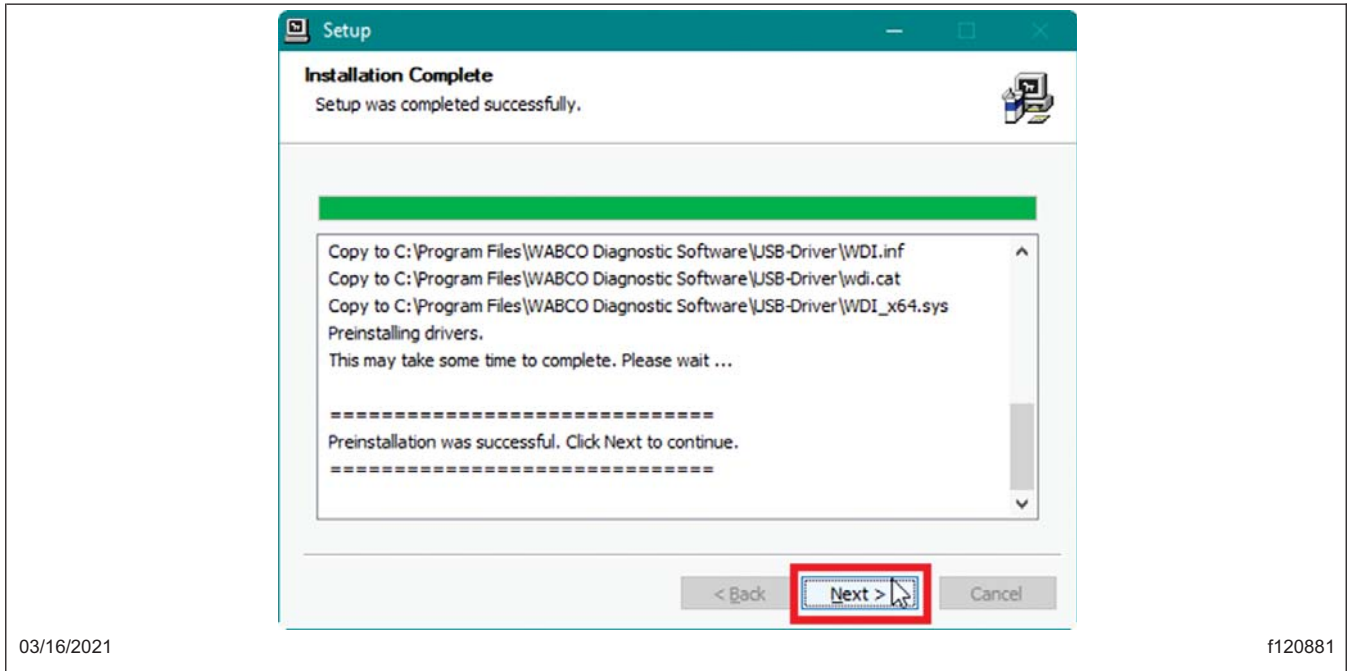

Fig. 21, Acknowledging the Installation is Complete
7.15 In the 'Installation Complete' window, select 'Next.' See Fig. 21.